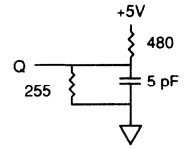

Fig. 2 OUTPUT LOAD EQUIVALENT
6. t^{HZCE}, t^{HZWE} and t^{HZOE} are specified with CL = 5pF as in Fig. 2. Transition is measured ± 500mV from steady state voltage.